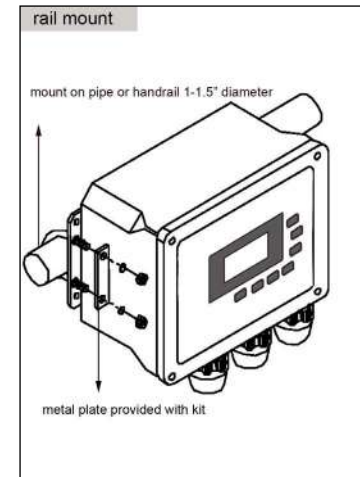

Figure 3.3
4. Place the u-bolts around the rail securing the IOEM and REM to the pipe or rail by feeding through the pre-drilled holes on the mounting brackets as shown in figure 3.3.